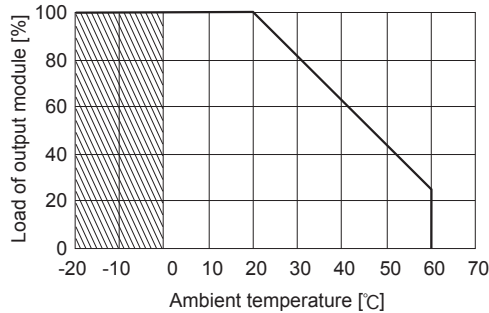

Fig. 5.4 Derating curve based on ambient temperature (-K)
- The difference from standard is shown Fig.5.4.